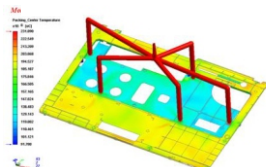

Fig.8 The temperature distribution of cover part of laptop
2. Investigate heat dissipation phenomenon in different thickness zones with the display of temperature and evaluate whether thin-wall may cause the flow hesitation and short shot. Fig. 8 shows the analysis result of temperature. If the gates are located at the central area of thin thickness, it might cause the problem of short shot due to the temperature undergoes a rapid drop.